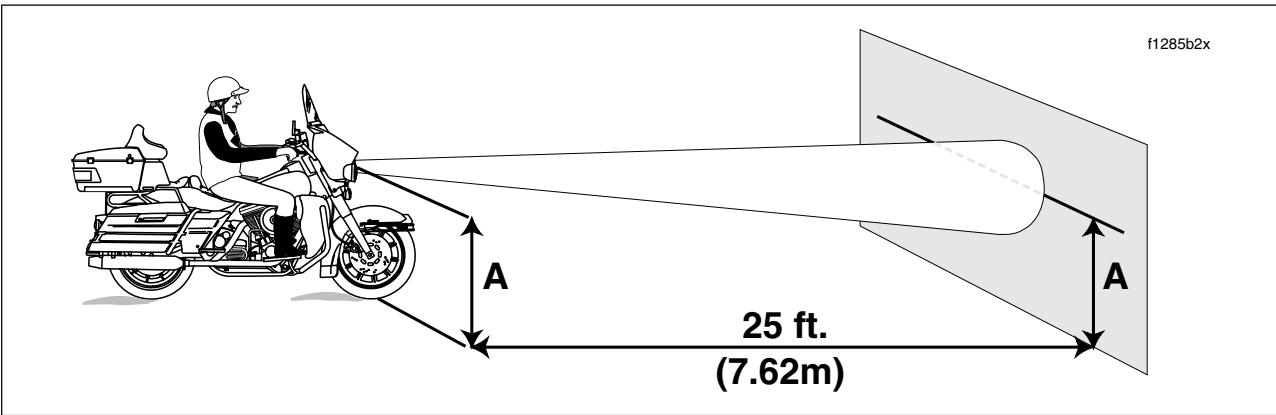

Figure 8-27. Check Headlamp Alignment
3. See Figure 8-27. Point the front of the motorcycle toward a screen or wall which is 25 feet (7.62 m) from where patch of front tire contacts floor (i.e. - directly below front axle).